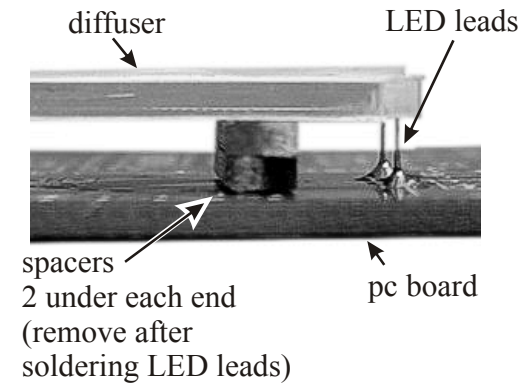

Figure 5-9
- Position the backlight assembly between the mounting holes labeled D2 and D3 as shown in Figures 5-9 and 5-10 with two 3/4" (19 mm) long spacers under each end. *The diffuser must be parallel to and 1/8" (3 mm) above the PC board.* Use a rubber band to hold the backlight assembly and spacers in place.
- Solder the four corner pins of the LCD, and then re-check the alignment of the LCD assembly. If everything looks correct, solder the remaining pins. LCD pins can be soldered on the top of the board if they do not protrude from the bottom. If the leads do not reach through the holes, be sure the solder fills the gap between the lead and solder pad (see Figure 5-9). After soldering, remove the spacers at each end. The leads will hold the assembly securely in place.